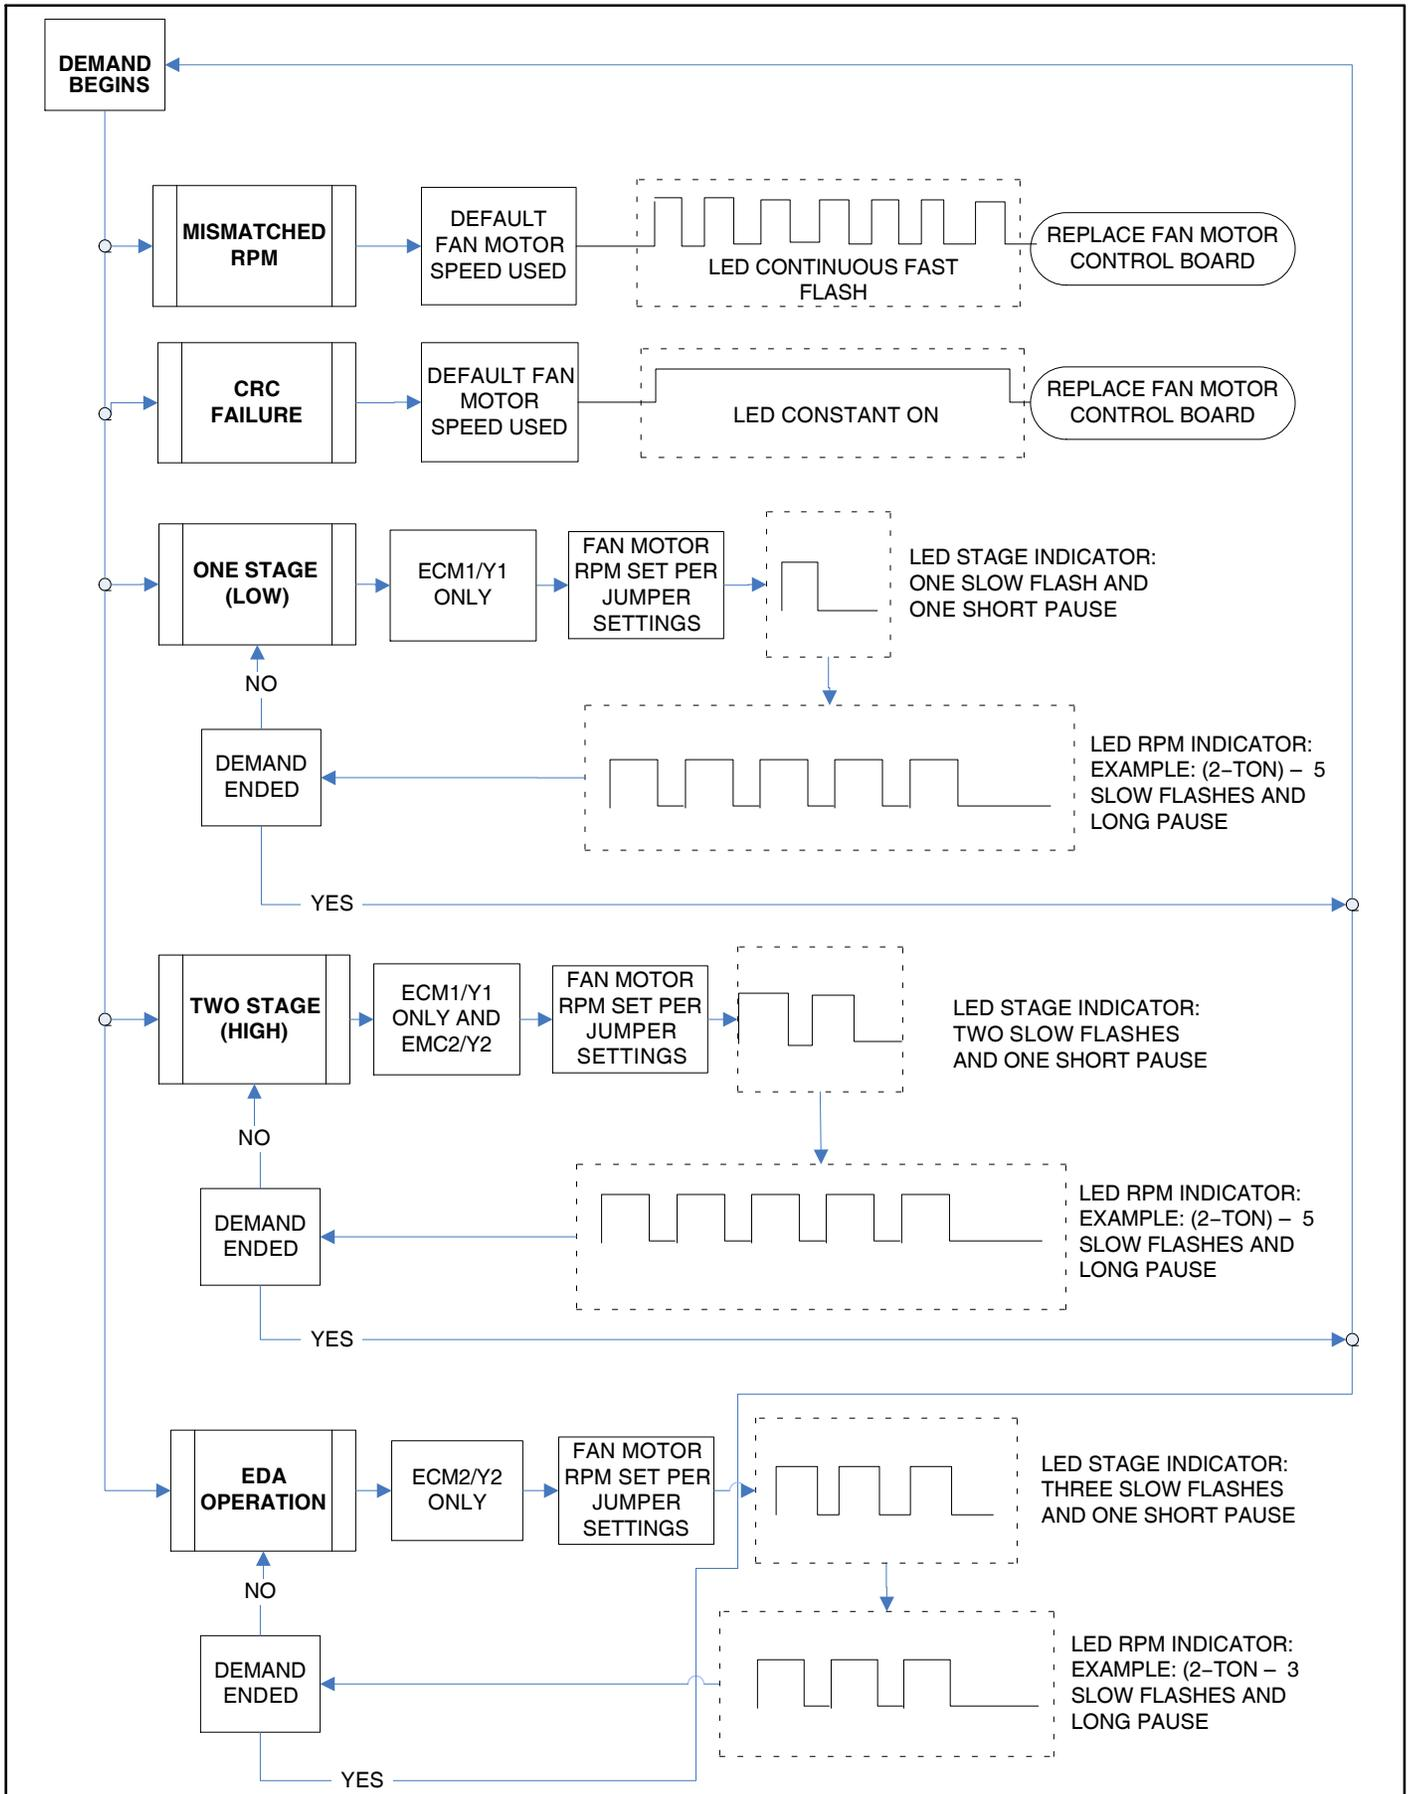

Figure 21. Fan Motor Control (A177) One/Two Stage and EDA LED Sequence of Operation
4. After the RPM indicator is displayed, there is a short pause. The sequence repeats if a thermostat demand is still present. See figure 21 for LED sequence. See table 19 for description of flash and pause durations.